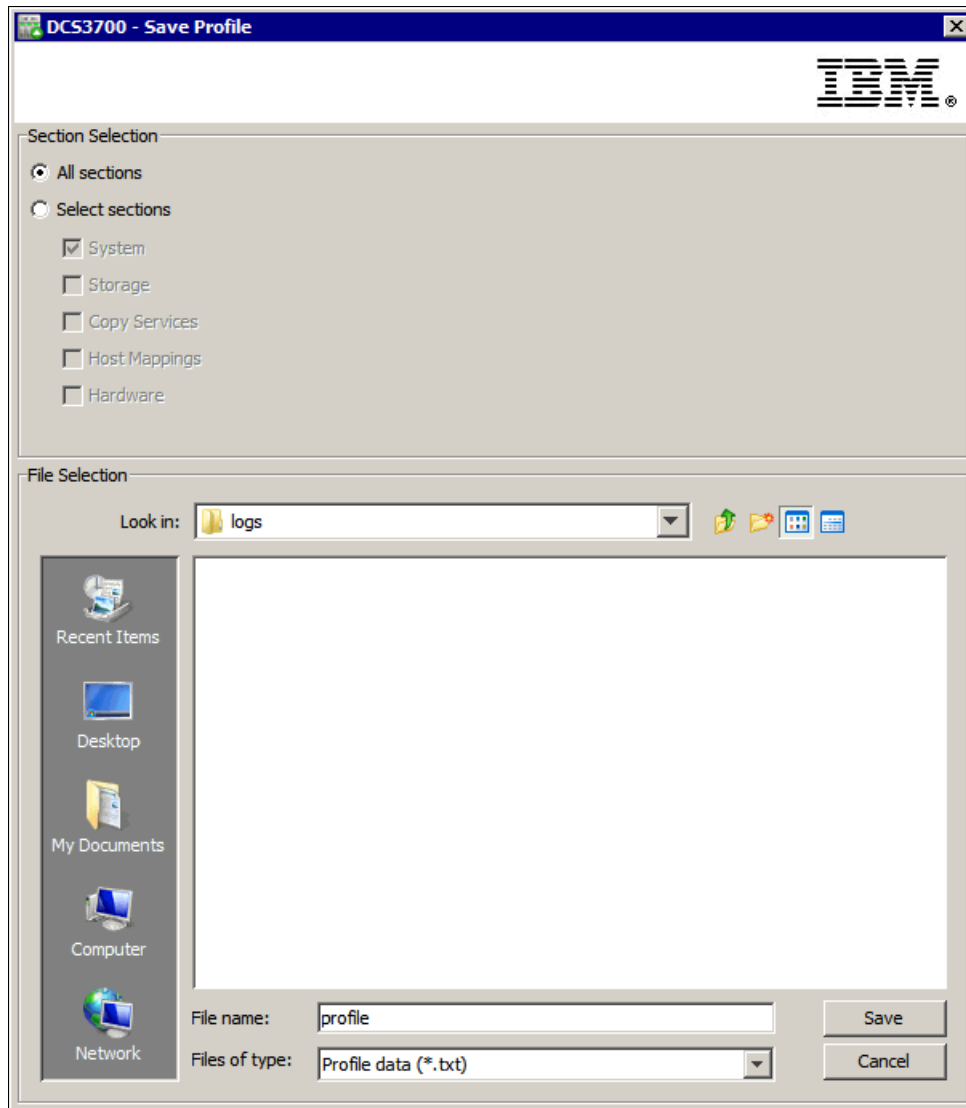

Figure 13-27 Save Profile
3. To save the profile, click **Save As**. At the top of Figure 13-27 on page 409, choose which sections of the profile that you want to save. By default, the tab that you were viewing is selected, and you can select any other tabs that you want. The general rule is to select the **All Sections** option.